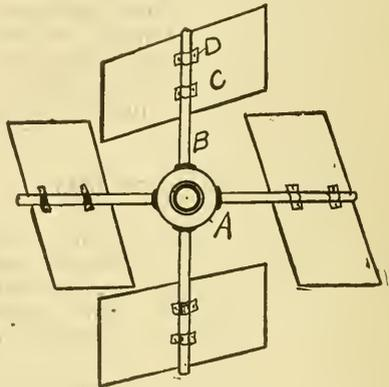
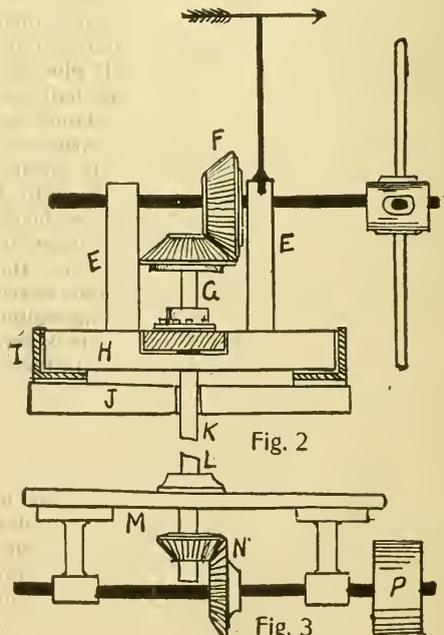
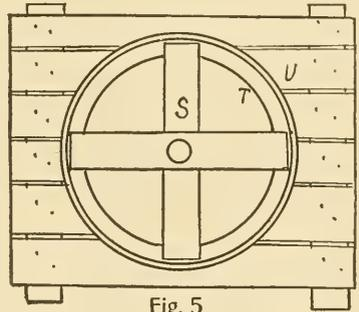
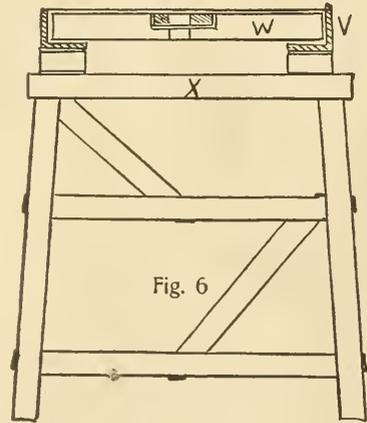

Fig. 1
Fig. 2
Fig. 5
Fig. 6
The hub for the revolving fan wheel is first constructed. One good way to get both the hub, lining, shaft and spokes for the blades, is to go to a wheelwright's and purchase the wheel and axle of some old rig. There are always a number of discarded carriages, wagons or parts thereof in the rear of the average blacksmith's shop. Sometimes for half a dollar and often for nothing, you can get a wheel, an axle, and connected parts. Remove from the wheel, all but the four spokes needed for the fans as in Fig. 1. The same hub, axle and bearings will do. In case you cannot secure a wheel and shaft, the hub may be made from a piece of hardwood, about 4 in. in diameter and 6 in. long. A 2-in. hole should be bored through for a wooden shaft, or a 1½-in. hole for a metal shaft. The hub may be secured by putting two or three metal pins through hub and shaft. Adjust the spokes by boring holes for them and arrange them so that they extend from the center A, like B. The wheel is then ready for the blades. These blades should be of sheet metal or thin hardwood. The sizes may vary according to the capacity of the wheel and amount of room for the blades on the spokes. Each one is tilted so as to receive the force of the wind at an angle, which adjustment causes the wheel to revolve when the wind pressure is strong enough. Secure the blades to the spokes by using little metal cleats, C and D. Bend these metal strips to suit the form of the spokes and flatten against the blades and then insert the screws to fasten the cleats to the wood. If sheet metal blades are used, rivets should be used for fastening them.
The stand for the wheel shaft is shown in Fig. 2. Arrange the base piece in platform order, (J). This is more fully shown in Fig. 5. On top of this base piece, which is about 36 in. long, place the seat or ring seat for the revolving table. The circular seat is indicated at I, Fig. 1. This ring is like an inverted cheese box cover with the
show in this sketch, but in Fig. 5, where it is marked S. This part is made of two pieces of 2-in. plank, about 3 in. wide, arranged so that the two pieces cross to make a letter X. When the pieces join, mortise them one into the other so as to secure a good joint. Adjust the uprights for sustaining the wheel shaft to the X pieces as shown at E, E, Fig. 2. These are 4x4-in. pieces of wood, hard pine preferred, planed and securely set up in the X-pieces by mortising into the same. Make the bearings for the wheel shaft in the uprights and insert the shaft.
of fastening a gear, R, to the shaft. The set screws enter the hub from the two sides and the points are pressed upon the shaft, thus holding the gear firmly in place. The platform for the entire wheel device is shown in Fig. 5. The X-piece S is bored through in the middle and the upright shaft passes through. The tin run-way or ring is marked T, and the X-piece very readily revolves in this ring, whenever the wind alters and causes the wheel's position to change. The ring and ring base are secured to the platform, U. The latter is made of boards nailed to the timbers of the staging for supporting the mill. This staging is shown in Fig. 6, in a sectional view. The ring with its X-piece is marked V, the X-piece is marked W, and the base for the part, and the top of the stage is marked X. The stage is made of 2x4-in. stock. The height may
vary, according to the requirements. If the affair is set up on a barn or shed, the staging will be sufficient to support the device. But if the stage is constructed direct from the ground, it will be necessary to use some long timbers to get the wheel up high enough to receive the benefit of the force of the wind. Proceeding on the plan of the derrick stand, as shown in Fig. 6, a stage of considerable height can be obtained.